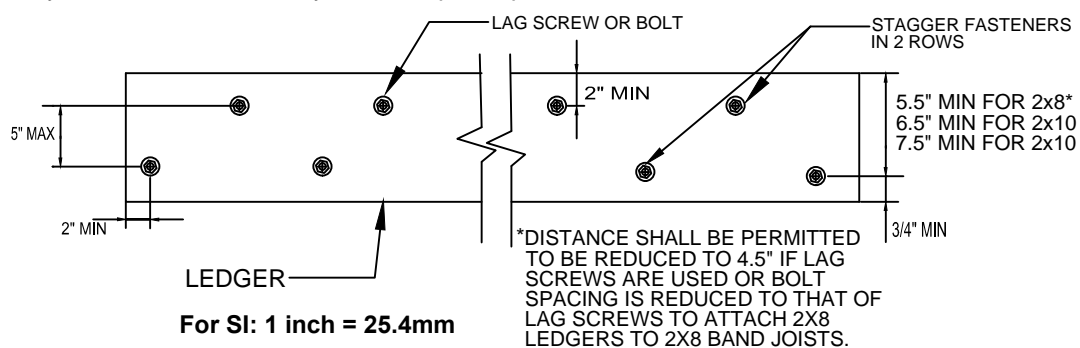

FIGURE R507.2.1(1)
- a. Lag screw or bolts shall be staggered from the top to the bottom along the horizontal run of the deck ledger in accordance with Figure R507.2.1(1)
- d. The minimum distance from bottom row of lag screws or bolts to the top edge of the ledger shall be in accordance with Figure R507.2.1(1).